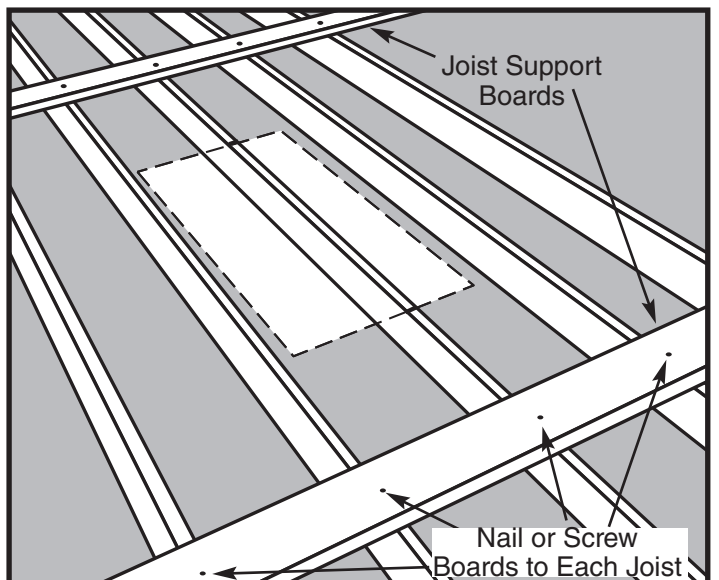

Figure 9
**Step 2.** Cut (2) joist-sized boards long enough to span (2) joists on each side of your chosen location (See Figure 9). These boards will support the joists that will be cut and help keep the ceiling from sagging or completely collapsing while you are working in the overhead space.
**Step 3.** Place these boards approximately 24" from the edge of your chosen location and nail (See Figure 9).